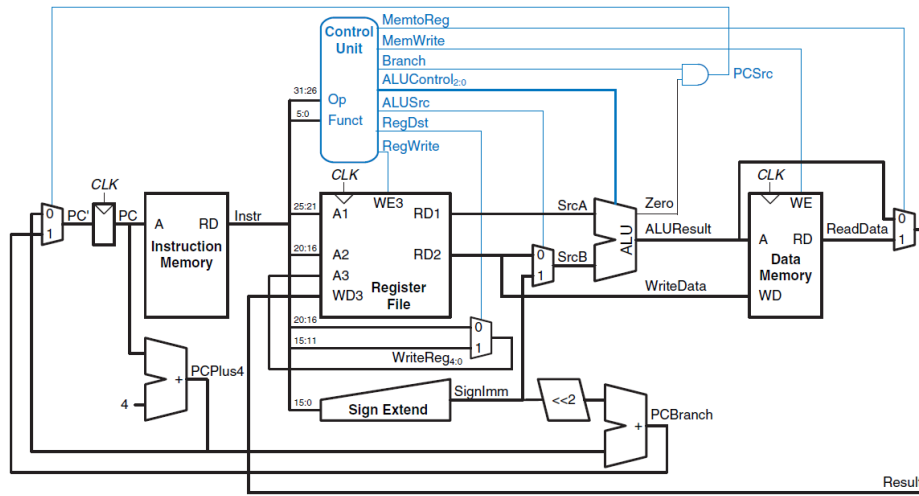

Figure 3: Complete single cycle MIPS processor
1. Modify the single-cycle MIPS processor to implement the `jal` instruction. See Appendix B for a definition of the instruction. Mark up a copy of Figure 3 to indicate the changes to the datapath. Name any new control signals. Mark up a copy of Table 3 to show changes to the main decoder. Describe any other changes that are required.